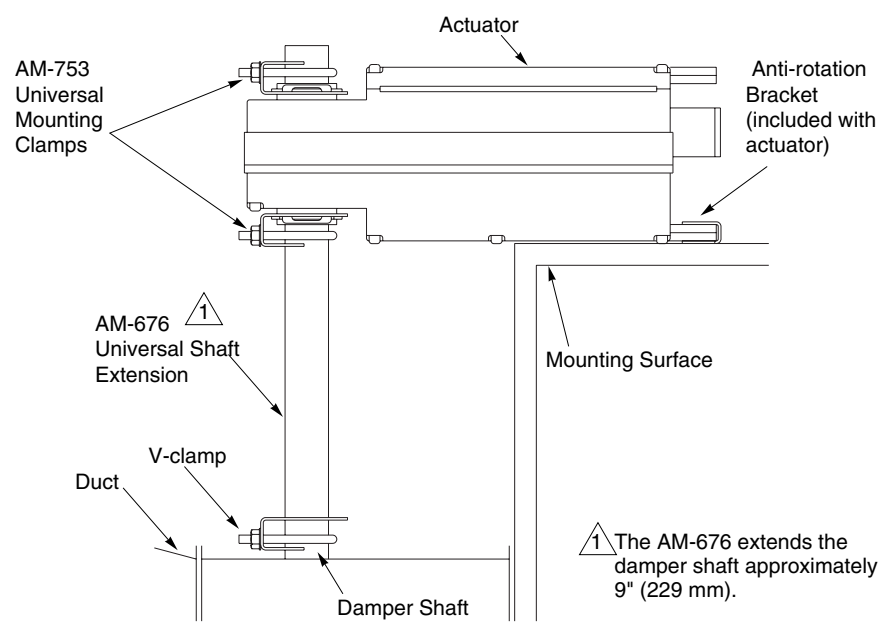

Figure-13 Installation of Universal Shaft Extension.
See Figure-13 for installation of actuator using the AM-676 Universal Shaft Extension. Installation requires AM-676 Universal Shaft Extension and AM-753 Universal Mounting
8. Position the actuator and bracket in the desired final mounting position on the mounting surface and drill mounting holes. See Figure-13.